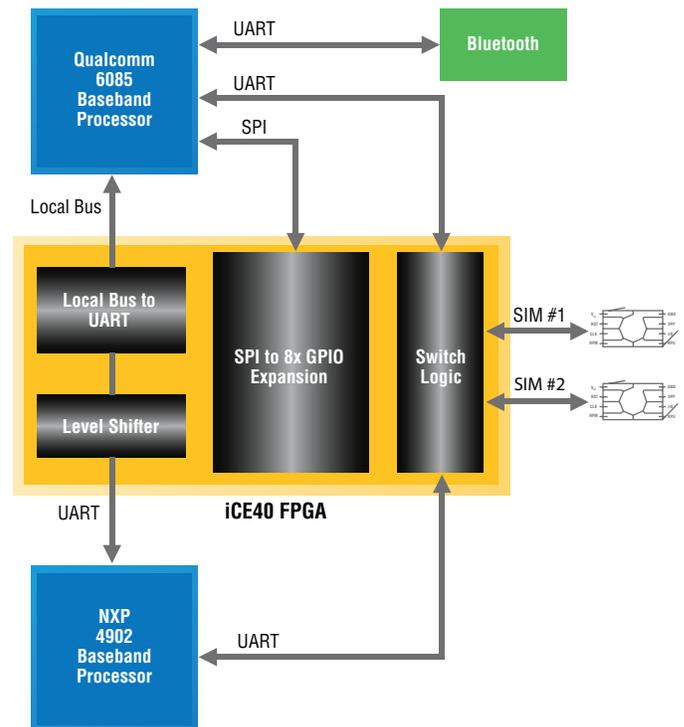

Figure 4: Interprocessor Communication Solution for Qualcomm 6085 and NXP 4902 Using the iCE40 FPGA.
- Direct communication through a common interface port (Figure 4)